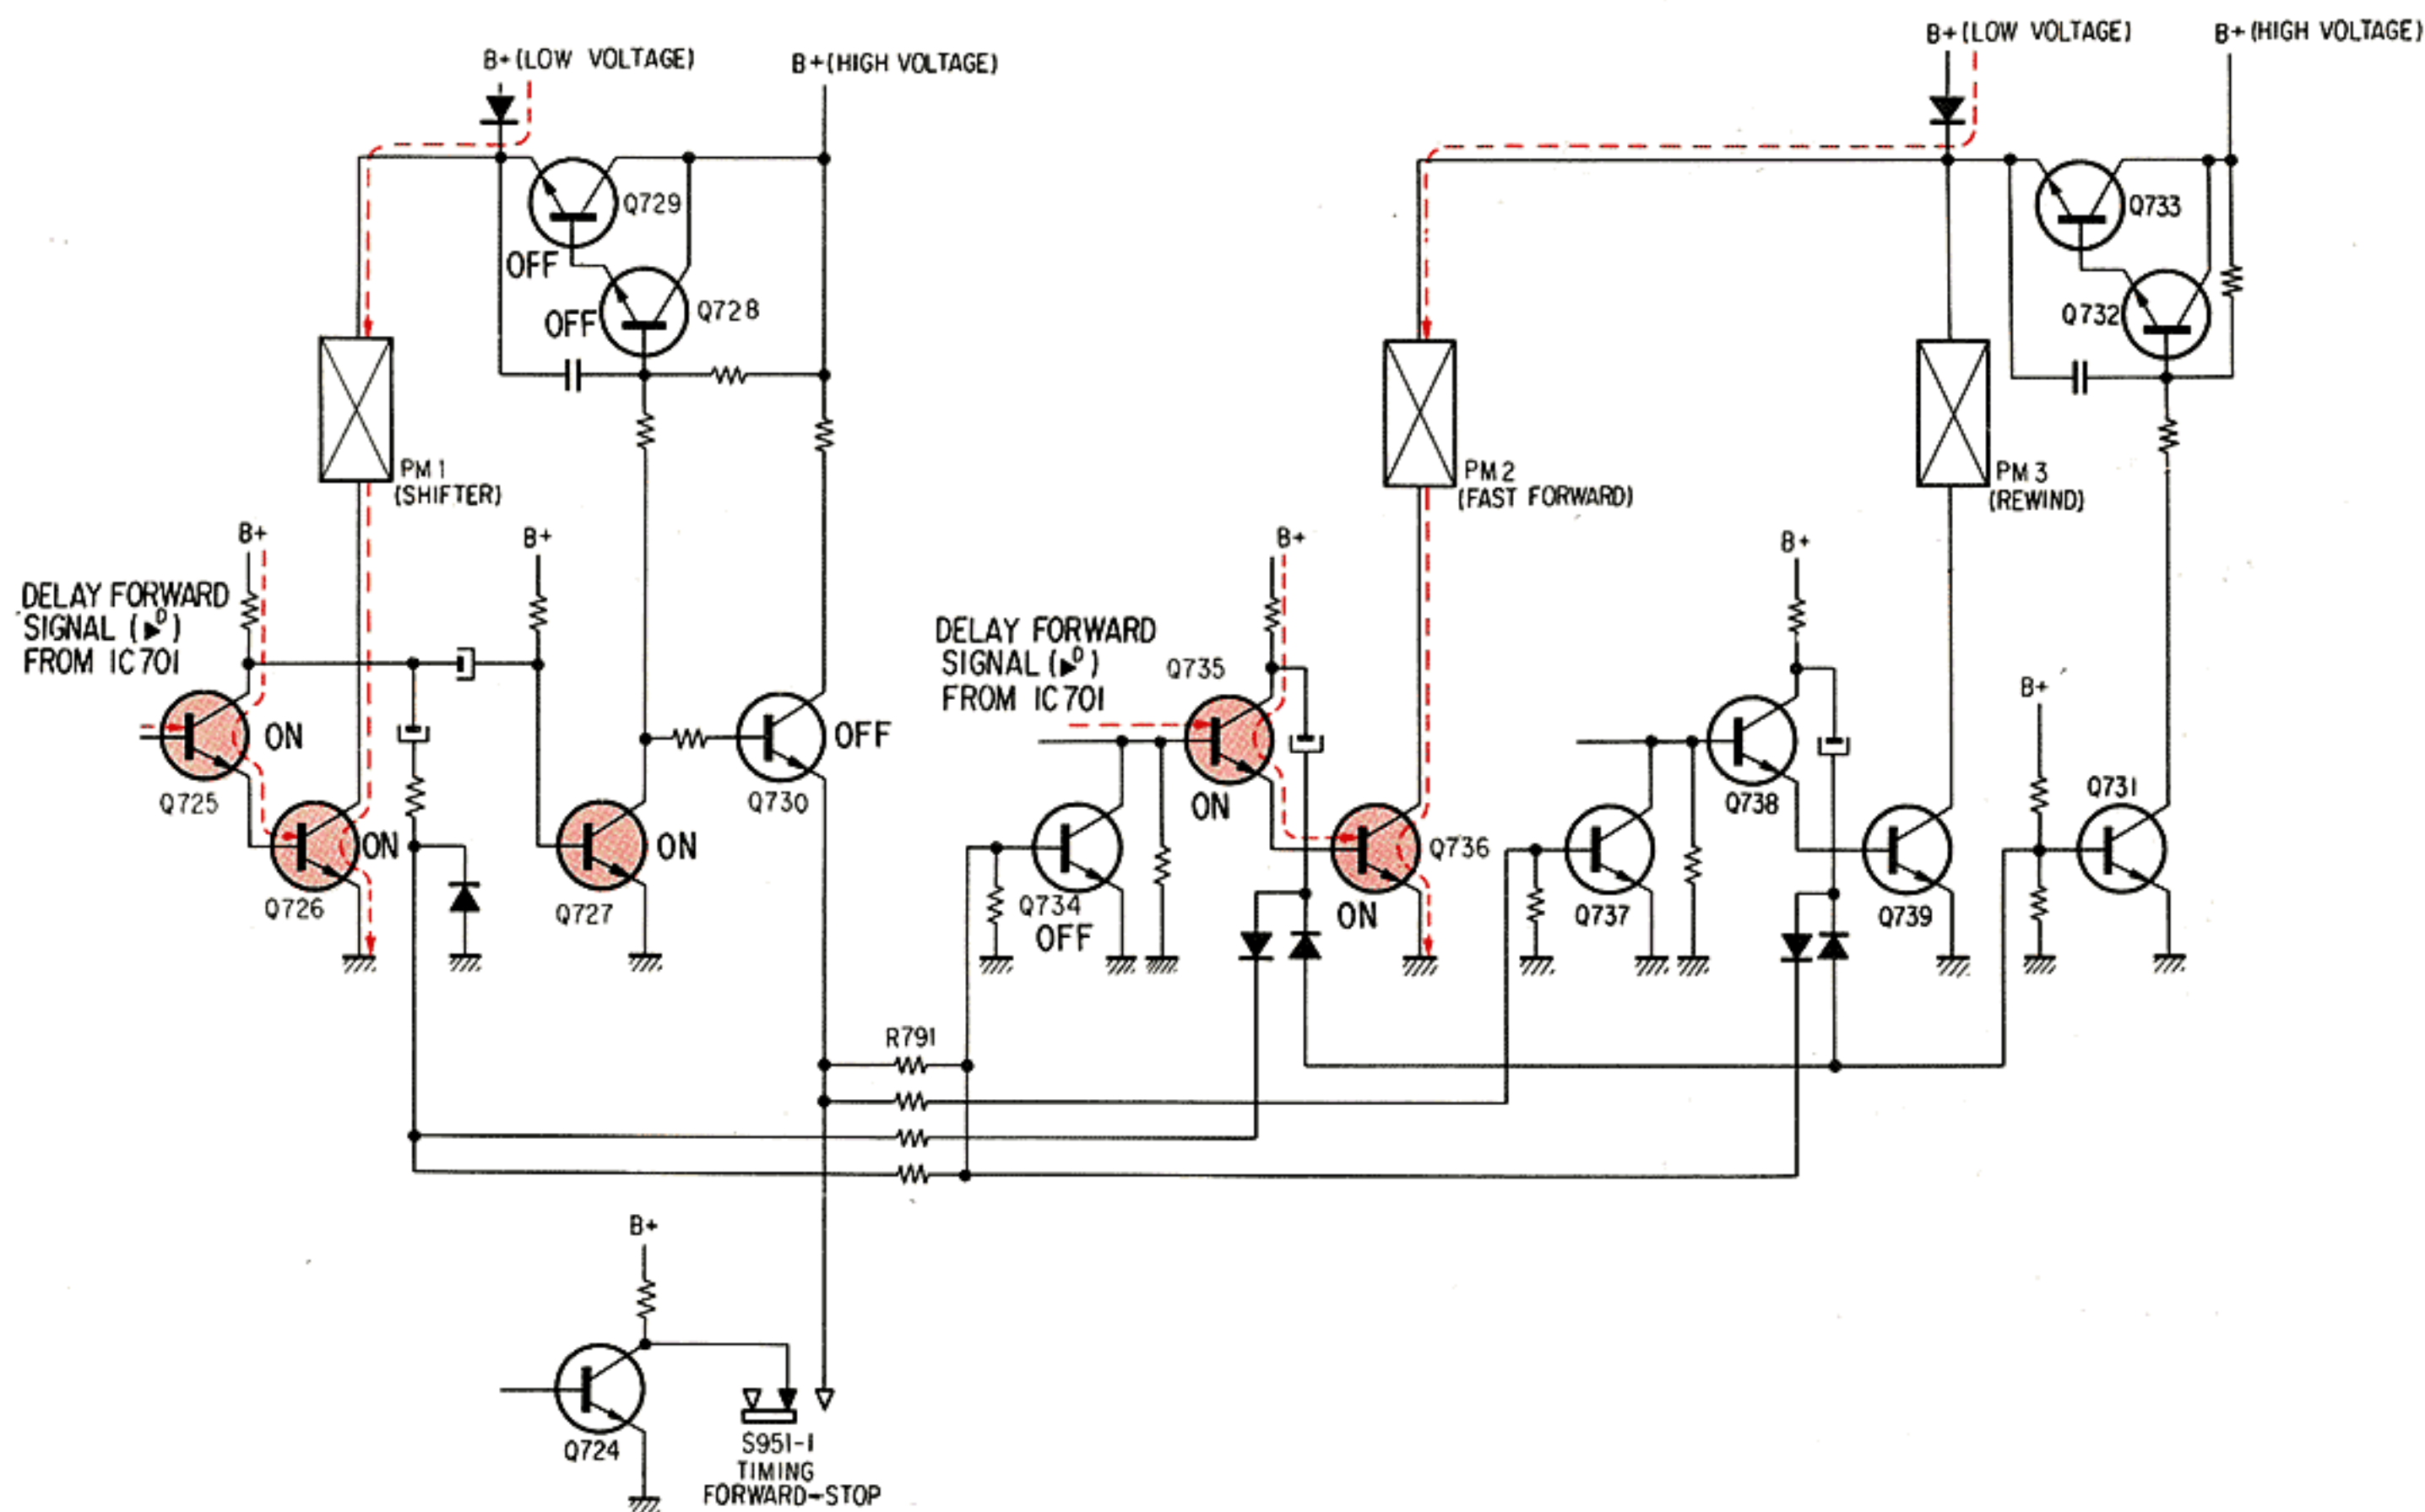

Fig. 1-3 Forward mode Commenced
5. After discharging C720, Q727 turns ON. (See Fig. 1-3). Consequently, Q728, Q729, Q730 and Q734 turn OFF, and Q735 and Q736 turn ON, so PM2 is energized. (Q731, Q732 and Q733 constitute the solenoid kick circuit. See the circuit description of EL-7).